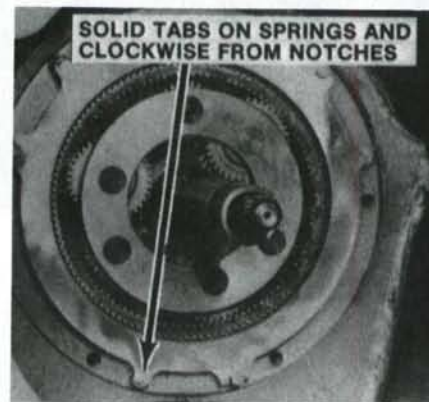

Fig. 161—Installing C-4 steel clutch plate with notches on pins and tabs aligning with return springs.
Install C-4 friction disc (23). On Model 2290 and 2294 tractors, install another C-4 steel plate so that tabs align with pins (26), then install another friction disc. On all models, install clutch plate (22), with solid tabs, so that notches align with pins (26) and solid tabs cover return springs as shown in Fig. 161.